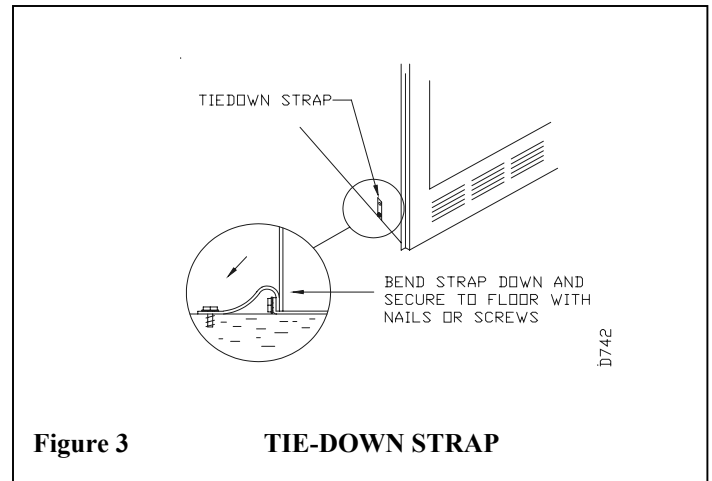

Figure 3 TIE-DOWN STRAP
STEP 6: Secure the fireplace to the floor using tie-down straps (see figure 3) to prevent shifting.